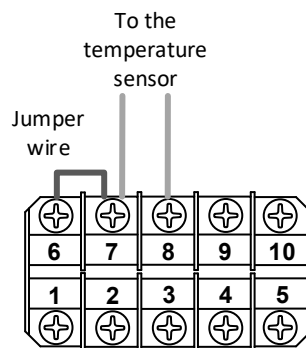

Figure 1. The sensor wires are attached to pin 7 and 8. The short jumper wire is attached to pin 6 and 7.
1. The wires attached to the pin 6, 7, and 8 on the PID controller might be loose or broken. See Figure 1 for the sensor wiring. This is the most probable cause for a newly installed kit.